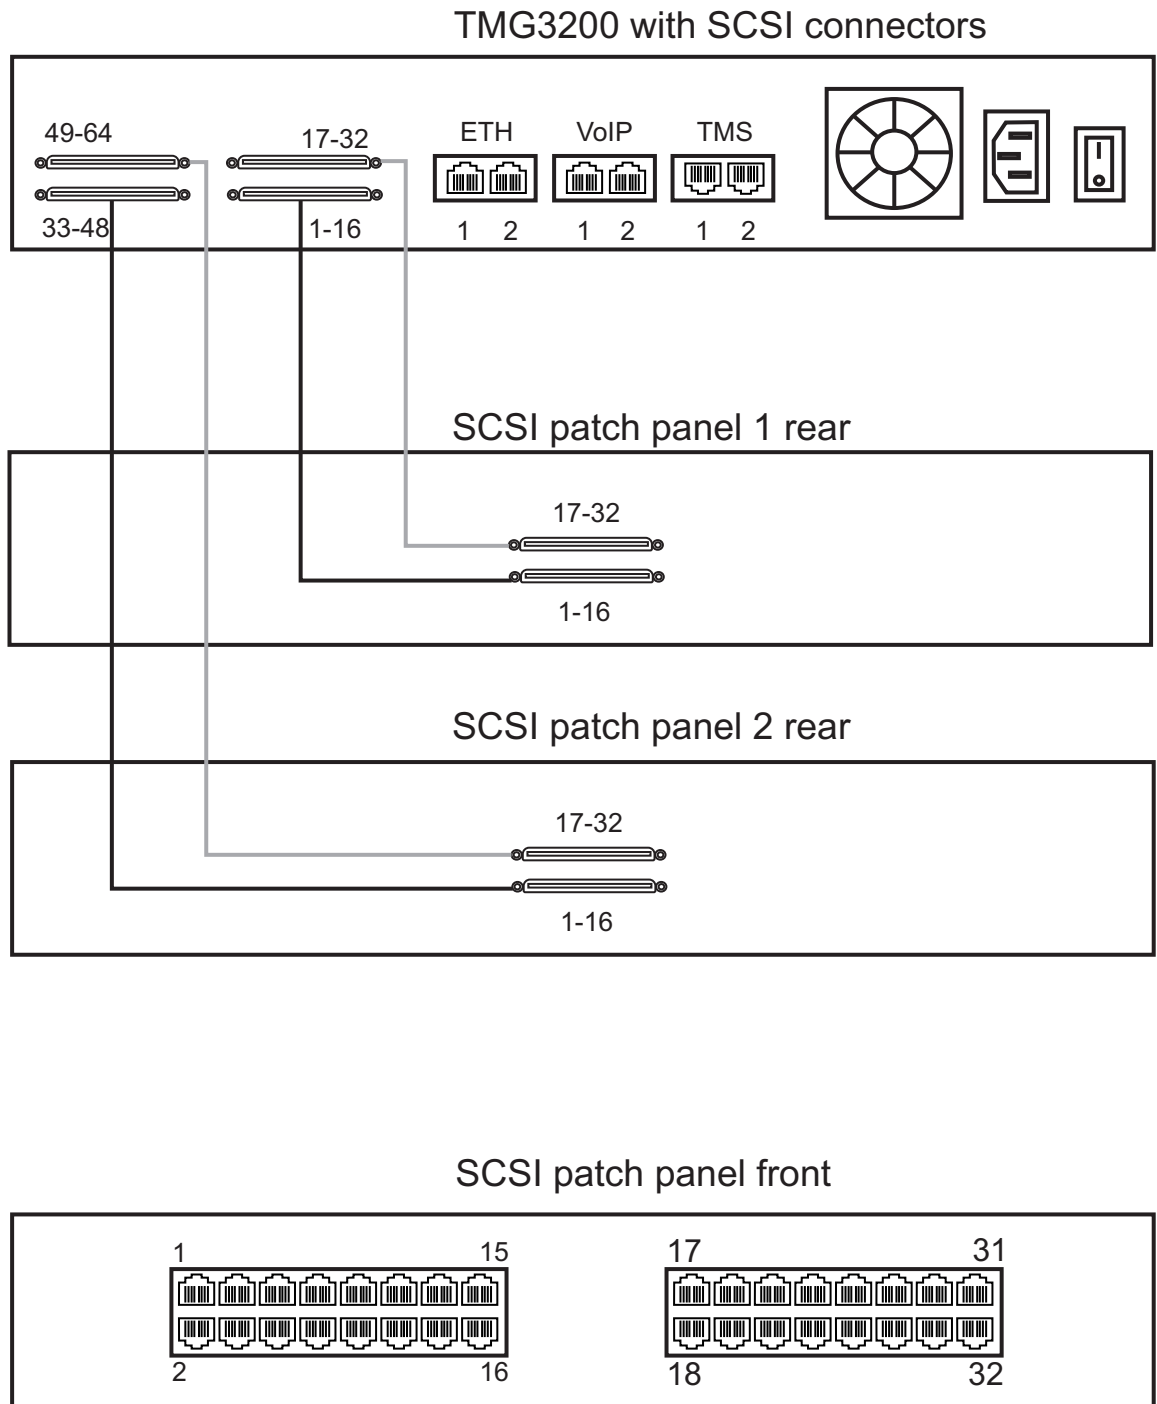

Figure 2.5 SCSI Interface to the PSTN
A TMG3200 with 4 SCSI connectors enables the connection to T1/E1/J1 lines. The termination impedance is set at 120 ohms. It is possible to connect an external balun in order to convert to 75 ohms. See figure 2.5 on page 15
1. Start with the SCSI ports 1-16 located at the bottom right as shown in figure 2.5 on page 15. Connect one SCSI cable between this port and SCSI patch panel number 1, ports 1-16. Connect SCSI ports 17-32 to patch panel number 1, ports 17-32.